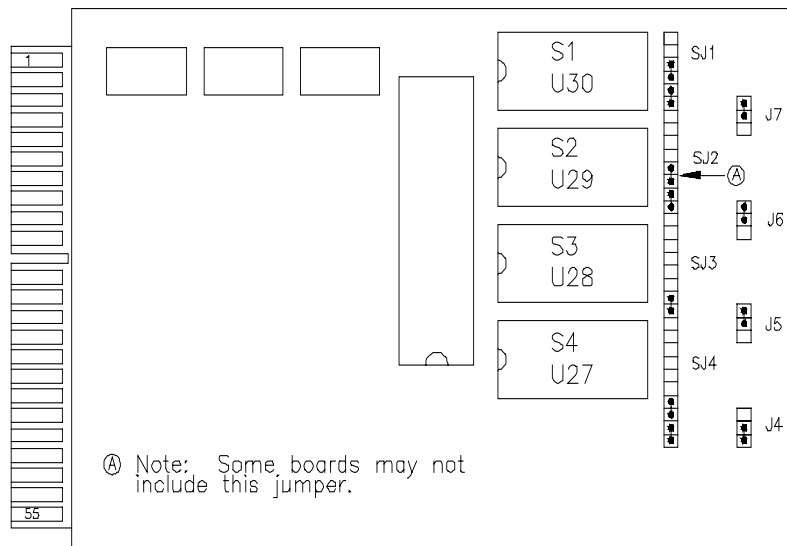

Figure 18. 1822 CPU card showing positions and orientation.
- Referring to **Figure 18**, locate the EPROM sockets (sockets will be marked S1 to S4 or U30 to U27 depending upon the revision of your board).
8. Carefully insert the new EPROM into the empty S3 (U28) socket by placing the chip, with the alignment notch in the position shown in **Figure 18**, over the socket and aligning the pins to the socket holes. With the pins in place, gently press down on the top surface of the chip. Press the chip in until it is fully seated.